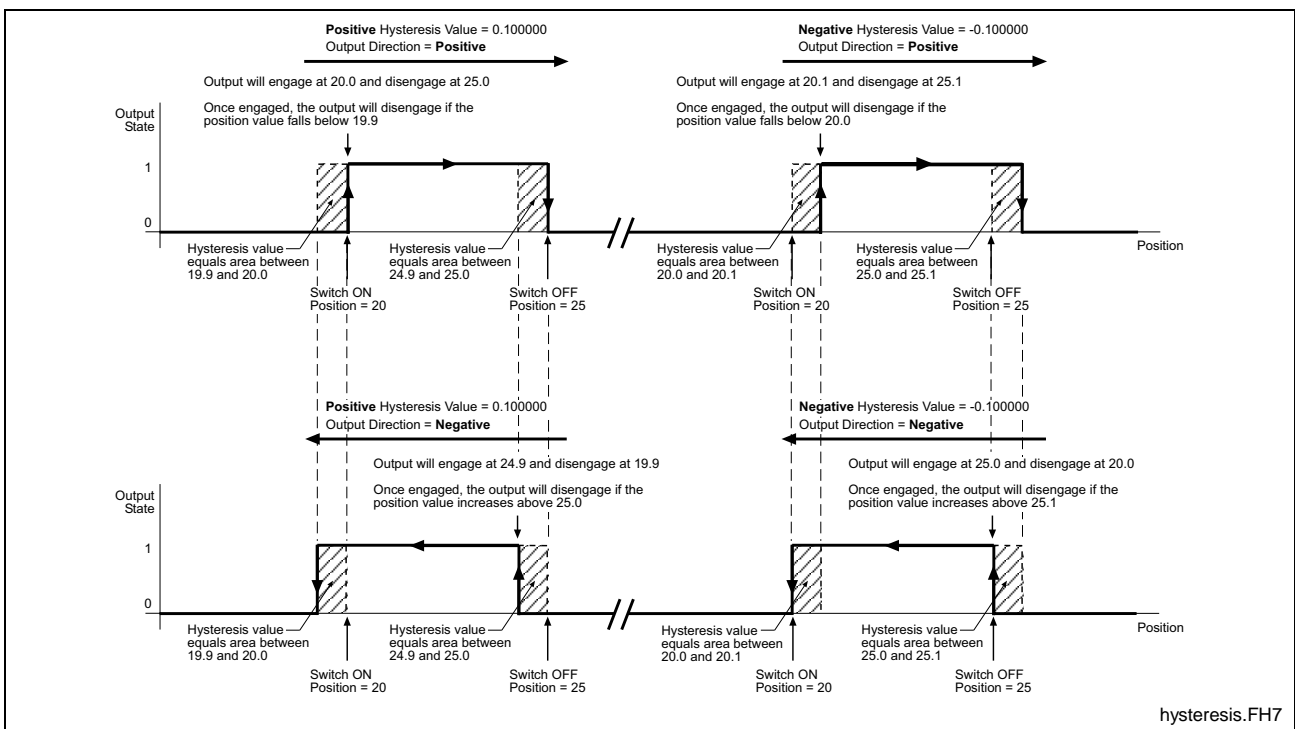

Fig. 8-30: Positive and Negative Hysteresis Value Reaction
- Hysteresis (C-0-2936)** - This value can be either *positive or negative* and sets the tolerance distance used by the control to determine whether or not a switch is in position. This is used to prevent dithering of the output. The value entered for the hysteresis will affect all switches in the *Output Switches* section. A PLS Master that is either a Real Master or a Drive uses a feedback device to output a positional value. Due to small positional value corrections from the drive trying to hold or maintain a position, the feedback output data will experience small positional changes. The illustration in Fig. 8-30 shows the different reactions for positive and negative hysteresis values.